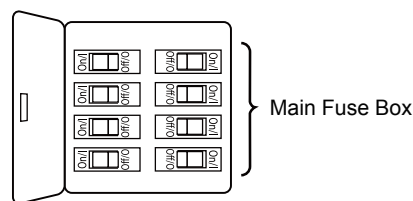

Figure 1
Your new ceiling fan will require a grounded electrical supply line of 120 volts AC, 60 HZ, 15 Amp Circuit. Electrical code requires use of a fan-rated outlet box to support the extra weight and motion associated with a ceiling fan. A fan-rated box will be labeled as such and typically supports up to a 70lb ceiling fan. Fan-Rated Outlet Boxes vary in ratings and design. Ensure the ratings of your ceiling fan outlet box meet the requirements for the ceiling fan being installed. Figure 1, Figure 2 and Figure 3 depicts different structural configurations that may be used for mounting the outlet box.
Low profile box (Figure 1)
To avoid possible electrical shock, be sure electricity is turned off at the main fuse box before hanging. (Figure 1)
- ☐ 1. To set the code on receiver unit, slide dip switches to the same positions as set on the remote. (Figure 1)
1. Assemble the motor assembly to ceiling plate assembly. Be sure the receiver and all wiring are tucked into the motor housing and are not pinched. Once the motor assembly is flush with your ceiling plate assembly, replace the previously removed hex nuts and securely tighten all four hex nuts. (Figure 1)
1. Secure the blades to the bottom of the motor assembly using the 3/16"-24 serrated head screws and blade plates. Be sure the groove in the flywheel is lined up with central hole on the blade. (Figure 1)
- ☐ 1. Remove one of the three screws in the support bracket at the bottom of the motor assembly. Retain the screw for later and slightly loosen the remaining two screws. (Figure 1)
- ☐ 1. **IMPORTANT:** Using a full range dimmer switch (not included) to control fan speed will damage the fan. To reduce the risk of fire or electrical shock, do not use a full range dimmer switch to control the fan speed. (Figure 1)